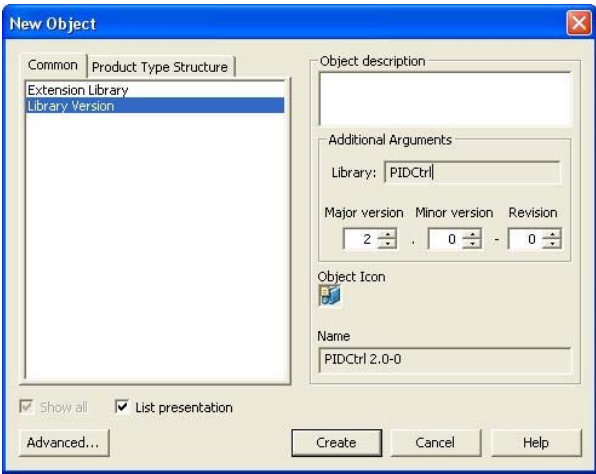

Figure 408. Creating New Major Version - New Object Dialog Box
- Right-click the Library object and select **New Object**. Select **Library Version**. Enter or accept the proposed version designation for the predetermined Library, see Figure 408. Click **Create**. All objects from the previous library version are automatically copied to the new version.